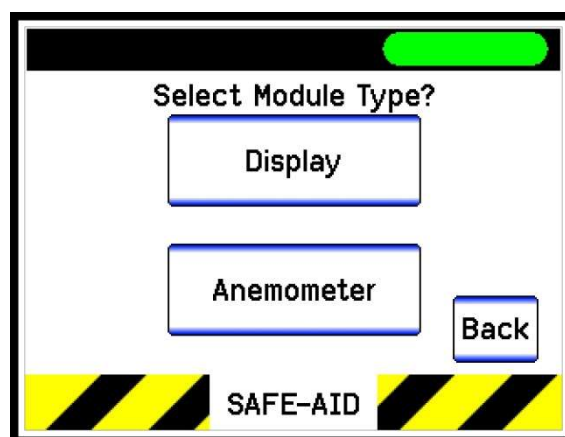

Figure 23
- Select **Display** (Figure 23)